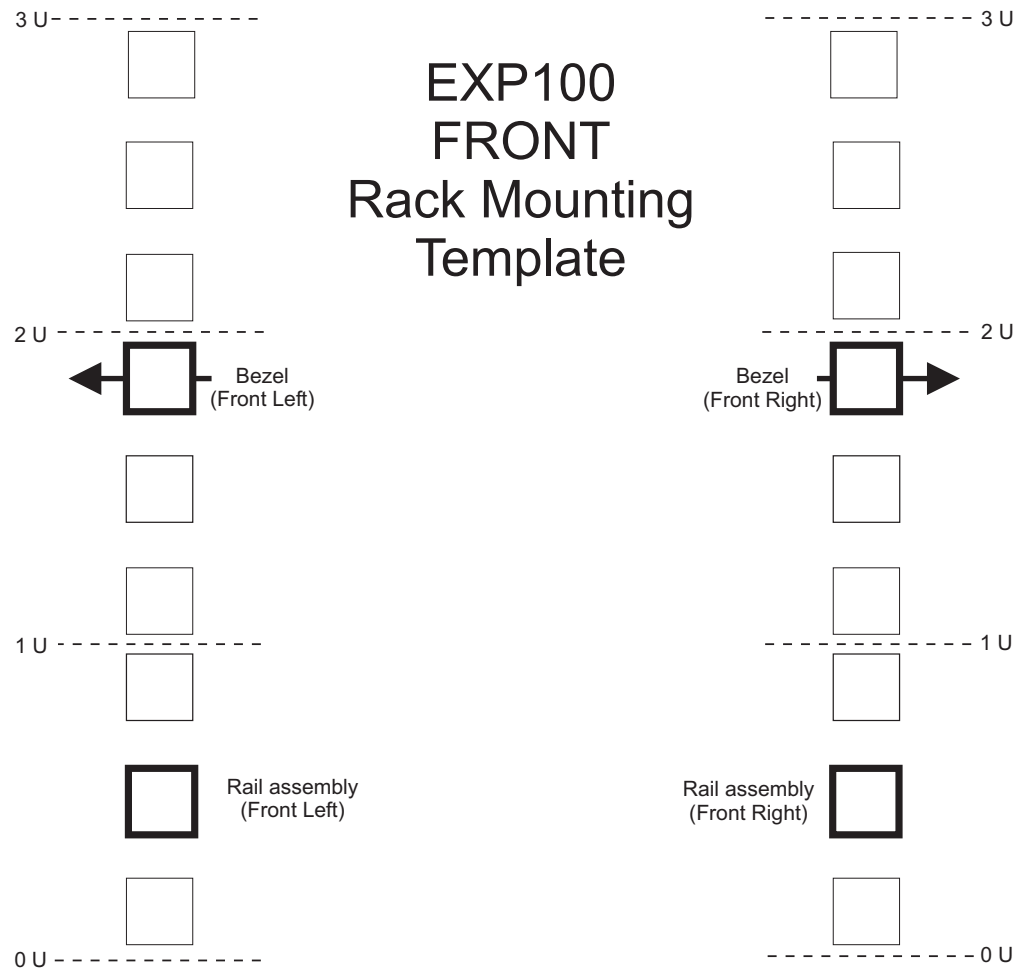
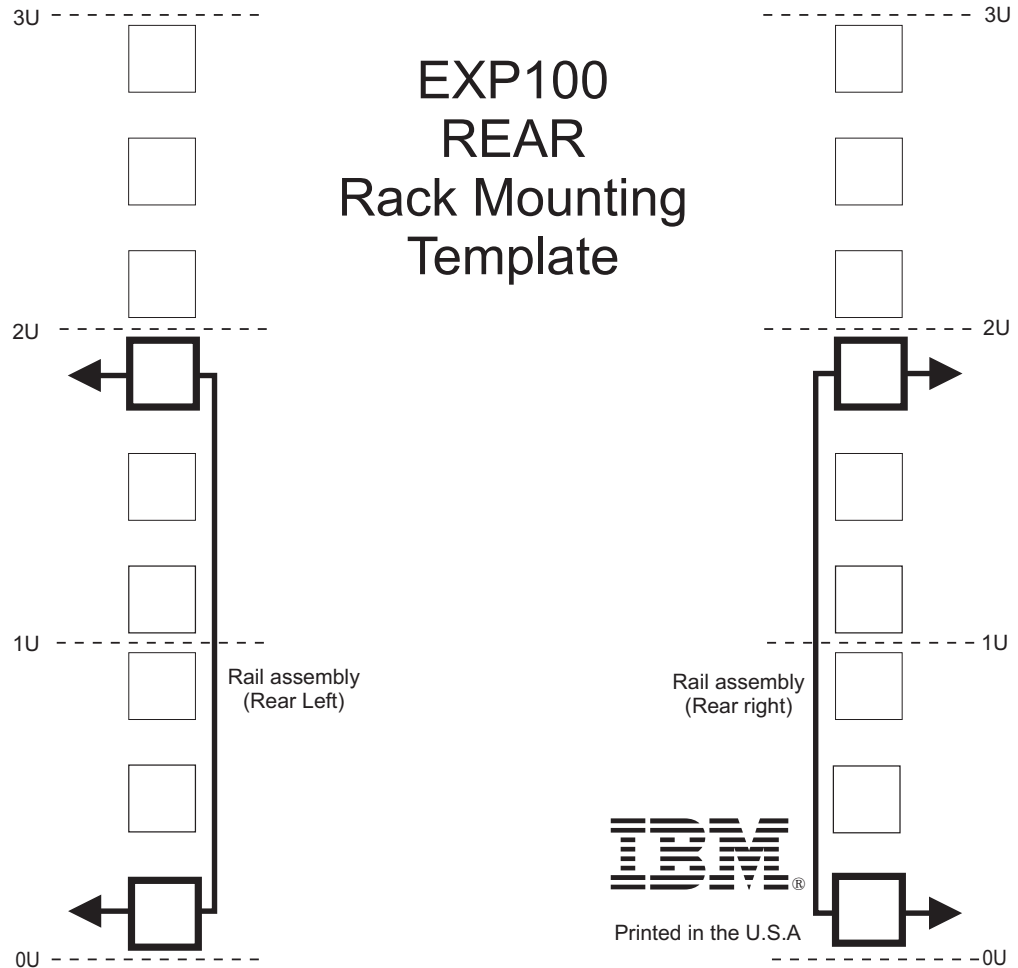

Figure 14. Front rack mounting template
Figure 15. Rear rack mounting template
Use the following templates (Figure 14 on page 33 and Figure 15 on page 34) to identify the proper locations for inserting M6 screws when mounting the support rails and EXP100 to a rack. The locations for the M6 screws are highlighted in the templates.
Attention: Use the rack mounting template provided in Figure 14 on page 33 and Figure 15 on page 34 to locate the proper rack mounting holes for installing the support rails into the rack.
6. Hold the front of the rail against the inside of the right rack-mounting flange and loosely tighten the lower M6 screw (**4**). See Figure 14 on page 33 for the location for this screw.
8. From the rear of the rack, thread and tighten two M6 screws (**1**) (see Figure 15 on page 34 for the location for these screws). From the front of the rack, finish tightening the front M6 screw (**4**).